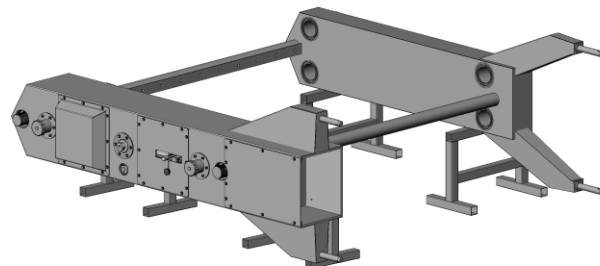

Figure 6-4
4. Slide the end support onto the rails (see figure 6-4). Note: The bottom rail can slide through the fixed end assembly. This allows the installation team to align the end support onto the top rail first. After the top rail is installed the bottom rail can be guided through the end support.